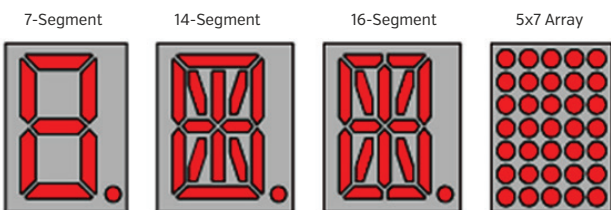

Figure 5 Types of Segment Displays
**Consumer/Industrial** - The IS31FL3248 is an ideal LED driver for applications with many LEDs to be controlled by a simple serial shift bus architecture. These include banks of 7-segment displays and single indicators as well as arrays of LEDs that form grids or panels as shown in Figure 5. These segmented displays are typically found on control panels for appliances or industrial applications. Simple signage displays composed of large LED dot arrays are also perfect applications for the IS31FL3248.